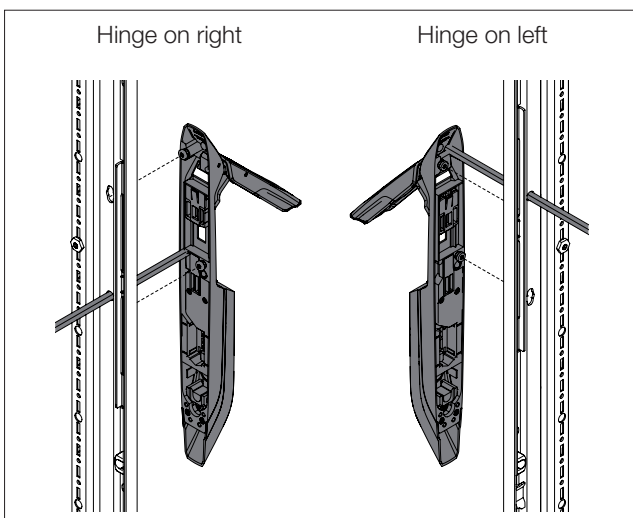

Fig. 7: Attaching the handle
- Attach the handle to the sheet steel door (fig. 7).